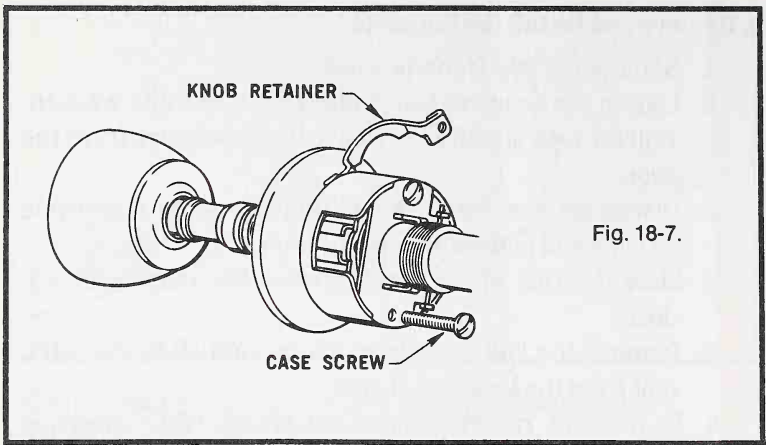

Fig. 18-7.
2. Slightly loosen *one* case screw and back off the other (Fig. 18-7).